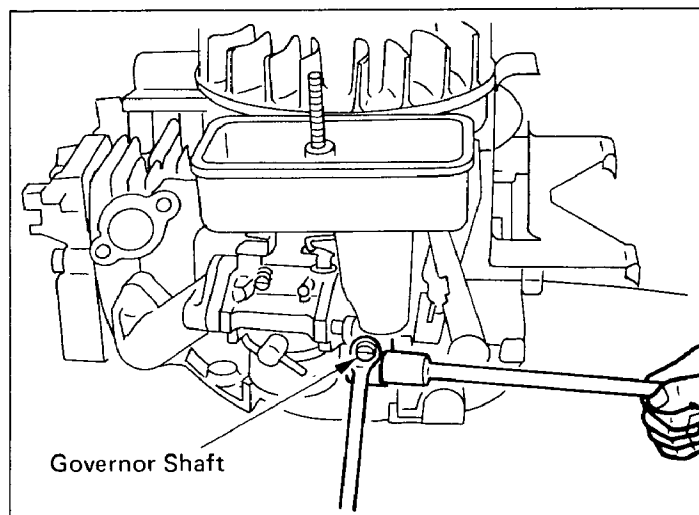

Fig. 48
- 2) With a screwdriver in the groove of the governor shaft, turn it "clockwise" fully until the governor shaft no longer moves, and then lock the governor lever to the governor shaft with the governor lever tightening bolt. (See Fig. 48.)